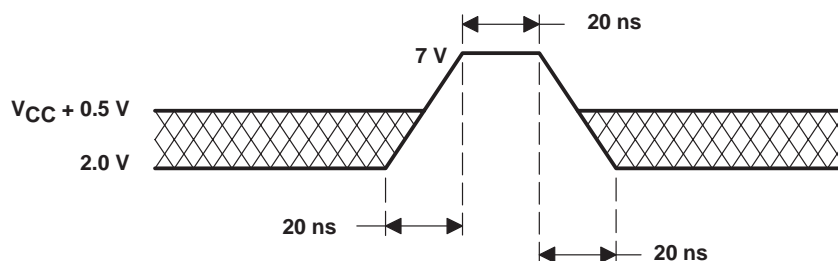

Figure 9. Maximum Positive Overshoot Waveform
6. The voltage on any input or output can overshoot to 7 V for periods less than 20 ns. See Figure 9.